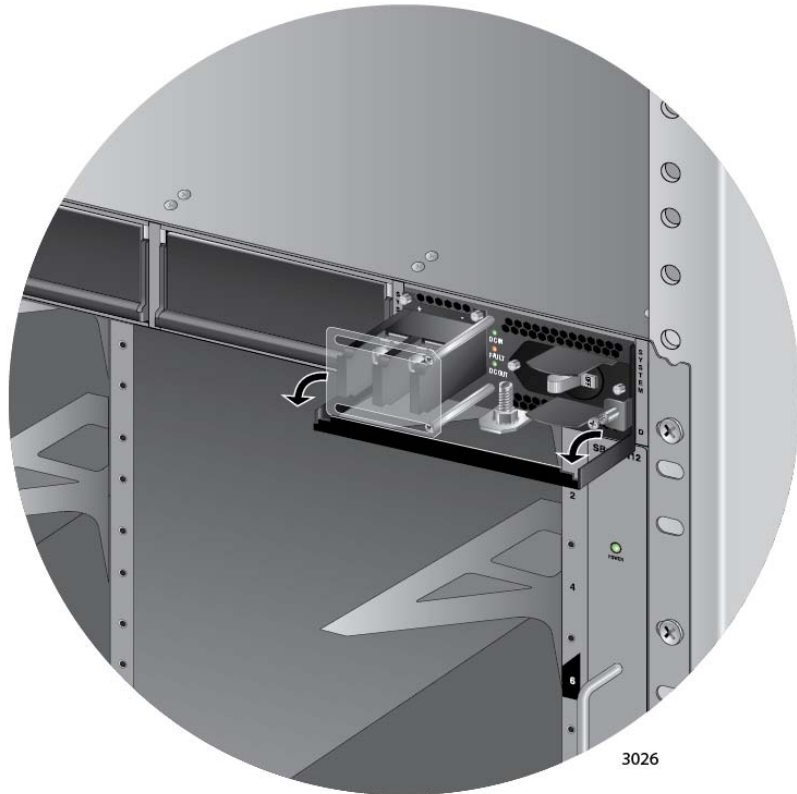

Figure 73. Locking the Handle on the AT-SBxPWRSYS1 DC System Power Supply
8. Lower the locking handle of the power supply module to secure the module in the slot, as shown in Figure 73.